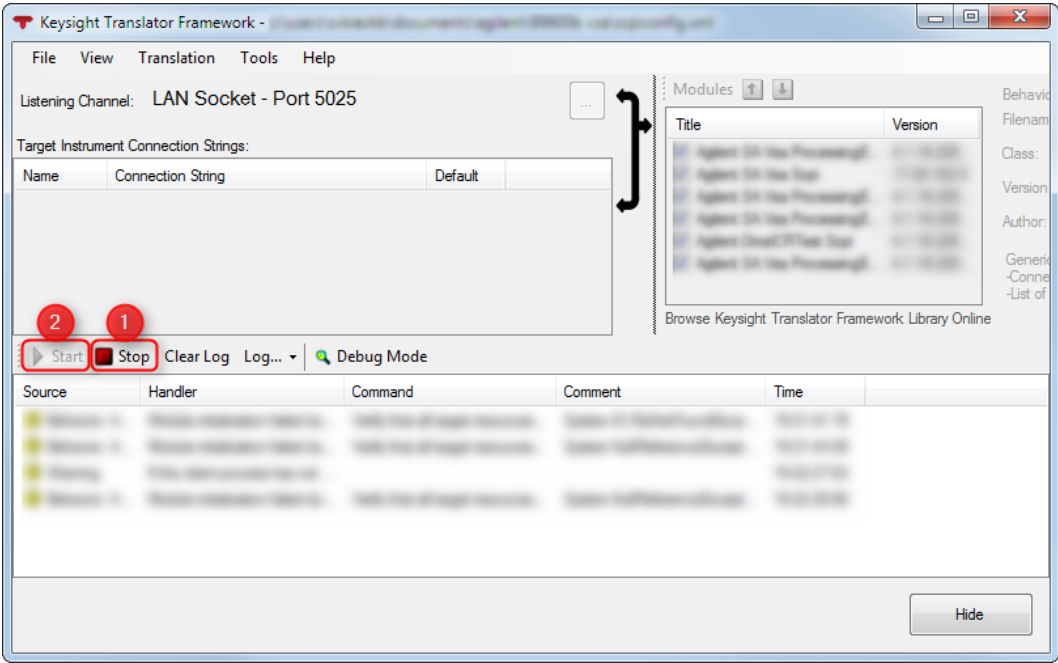

Figure 17 Keysight Translator Framework
Should the 81196A OMG software become unable to communicate with the 89601B VSA, a SCPI server restart may be required. This can be done by double-clicking the red Keysight Translator Framework icon in the system tray, then clicking the Stop button (1), followed by the Start button (2) in the Keysight Translator Framework user interface, as shown in the Figure 17 on page 70.